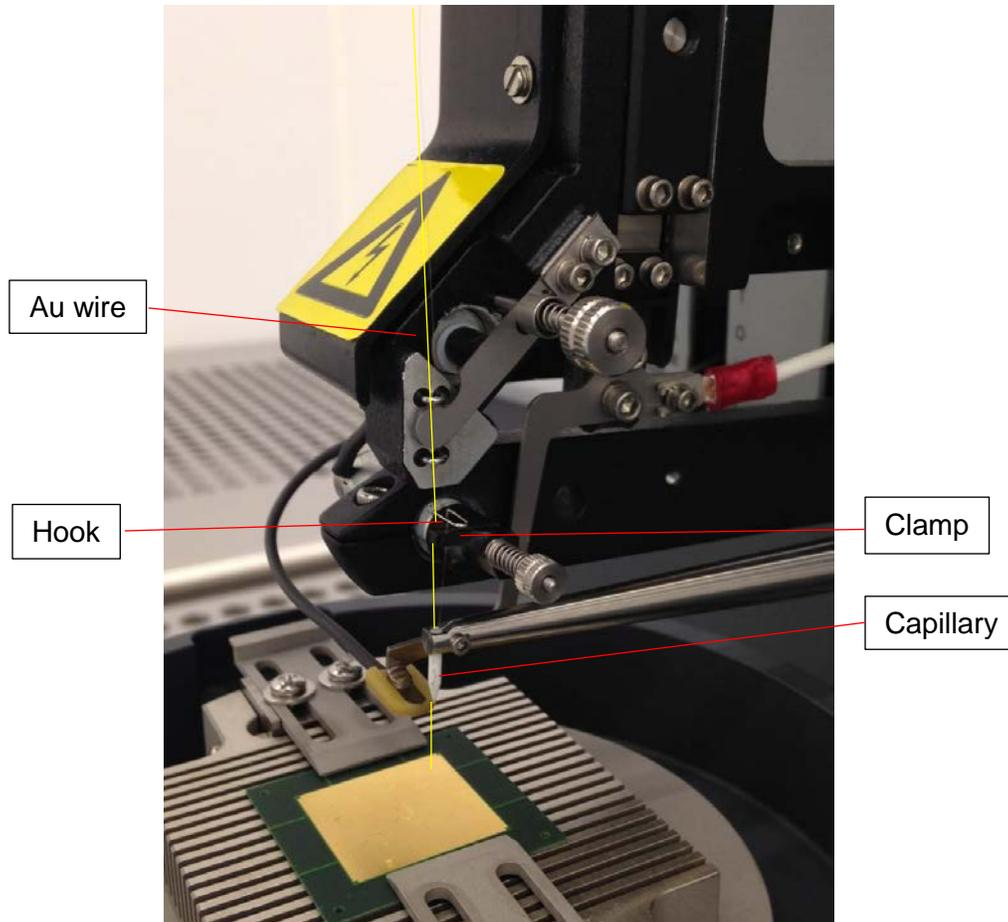

Figure 8. Wire path
- 1) **Do not crash the wire capillary** (see Figure 8).
- 2) Adjust microscope to focus on the clamp. Feed the wire through the hook and place it in the clamp (Figure 8).